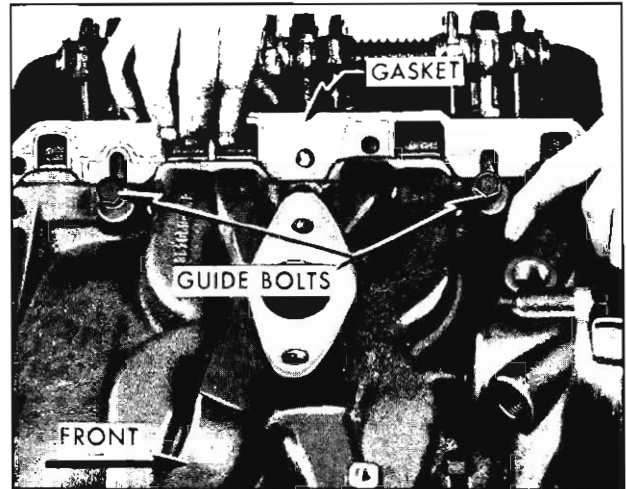

Fig. 3-114 Intake Manifold Gasket
3. Lift the manifold slightly and slip the gaskets into position as shown in Fig. 3-114. Take care to see that the gasket is installed with
the three intake manifold ports aligned with the head and manifold. The gasket should be installed as shown in Fig. 3-114 on the left side and reversed for right side installation.